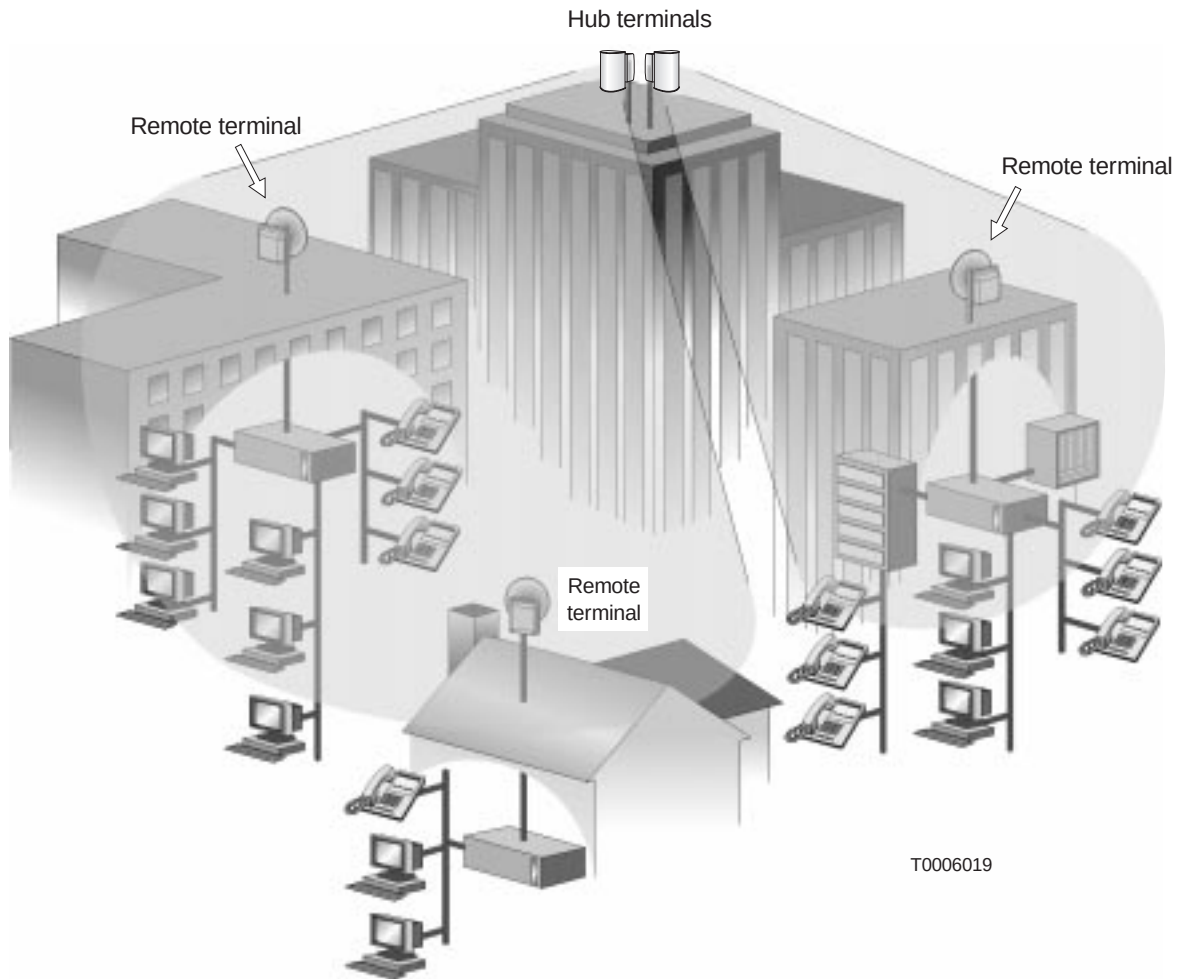
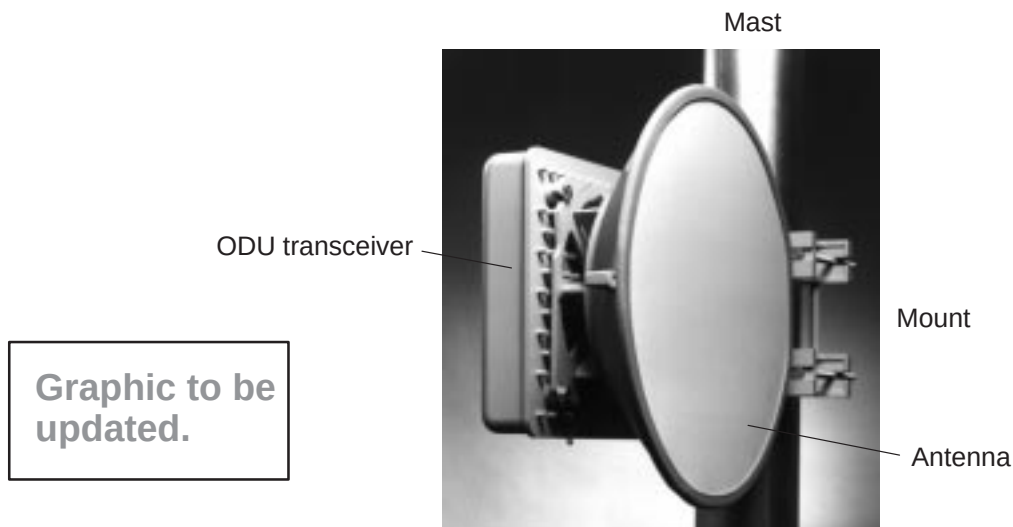

Figure 6-1 Hub ODUs communicating with RT ODUs
Figure 6-2 ODU (installed)
For conceptual reference, figure 6-1 illustrates how hub terminal (HT) ODUs communicate with remote terminal (RT) ODUs. The remote terminal (RT) outdoor unit (ODU) and integrated antenna attach to a mount installed on a vertical or horizontal mast, as shown in figure 6-2 on page 6-3.